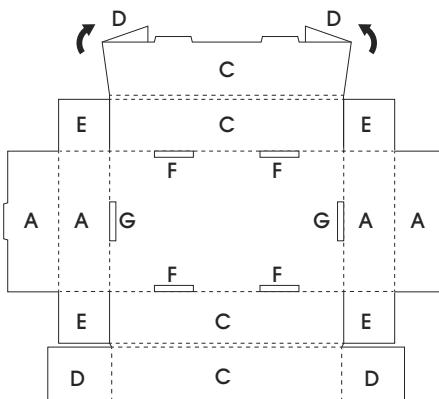

Figure 3
3. On one side, fold side flaps (D) outward. (See Figure 3)